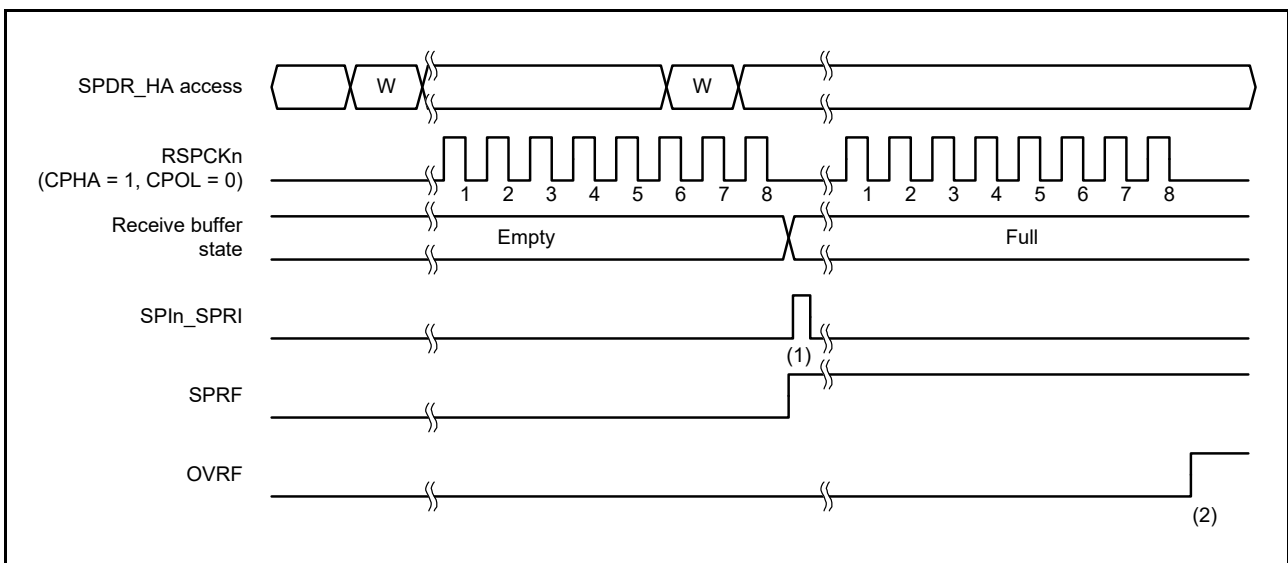
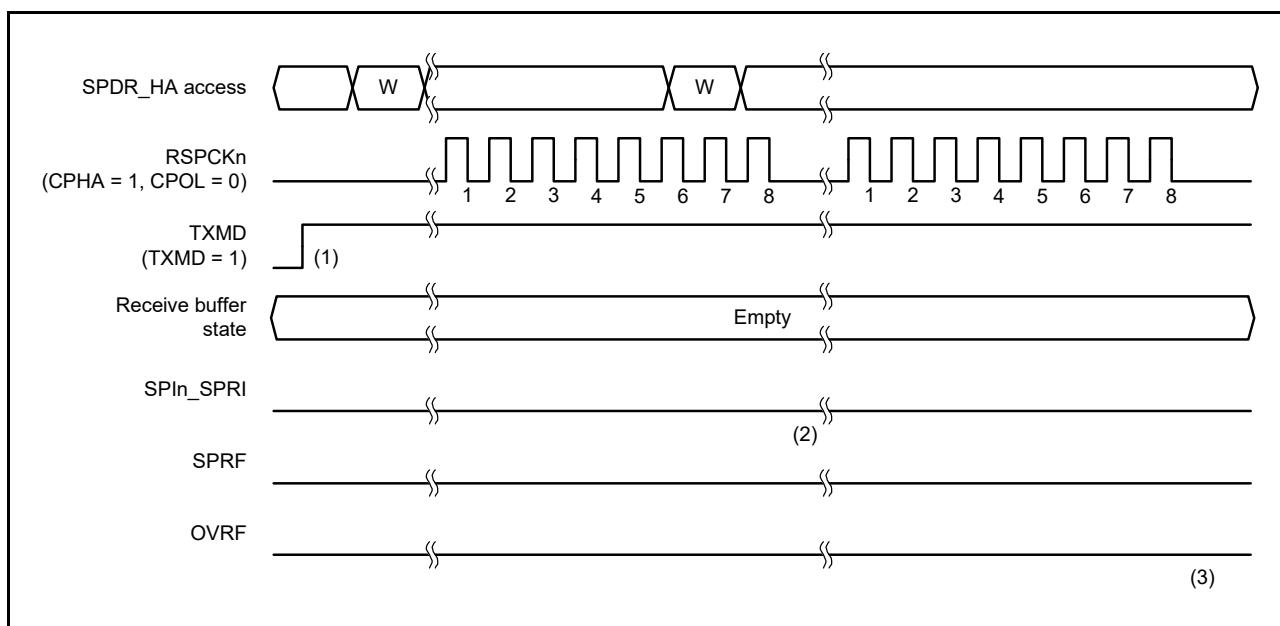

Figure 32.28 Operation example when SPCR.TXMD = 0
Figure 32.29 Operation example when SPCR.TXMD = 1
Full-duplex synchronous serial communications or transmit operations can only be selected by the communications operating mode select bit (SPCR.TXMD). The register accesses shown in Figure 32.28 and Figure 32.29 indicate the condition of access to the SPDR/SPDR_HA register, where W denotes a write cycle.
Figure 32.28 shows an example of operation where the communications operating mode select bit (SPCR.TXMD) is set to 0. In the example, the SPI performs an 8-bit serial transfer in which the SPDCR.SPFC[1:0] bits are 00b, the SPCMDm.CPHA bit is 1, and the SPCMDm.CPOL bit is 0 for SPI0, and in which the SPCMD0.CPHA bit is 1 and the SPCMD0.CPOL bit is 0 for SPI1. The numbers given for RSPCKn in the waveform represent the number of RSPCK cycles, meaning the number of transferred bits.
The operation of the flags at timings shown in (1) and (2) in Figure 32.28 is as follows:
- (1) When a serial transfer ends with the SPDR_HA receive buffer empty, the SPI generates a receive buffer full interrupt request (SPIn_SPRI), the SPI sets the SPSR.SPRF flag to 1, and the received data is copied from the shift register to the receive buffer.
- (2) When a serial transfer ends with the SPDR_HA receive buffer holding data that was received in the previous serial transfer, the SPI sets the SPSR.OVRF flag to 1 and discards the received data in the shift register.
Figure 32.29 shows an operation example where the communications operating mode select bit (SPCR.TXMD) is set to 1. In the example in Figure 32.29, the SPI performs an 8-bit serial transfer in which the SPDCR.SPFC[1:0] bits are 00b, the SPCMDm.CPHA bit is 1, and the SPCMDm.CPOL bit is 0 for SPI0, and in which the SPCMD0.CPHA bit is 1 and the SPCMD0.CPOL bit is 0 for SPI1. The numbers given for RSPCKn in the waveform represent the number of RSPCK cycles, meaning the number of transferred bits.
The operation of the flags at timings shown in (1) to (3) in Figure 32.29 is as follows:
- (1) Make sure there is no data left in the receive buffer (SPSR.SPRF flag = 0) and the SPSR.OVRF flag is 0 before entering the transmit-only operation mode (SPCR.TXMD = 1).
- (2) When a serial transfer ends with the receive buffer of SPDR_HA empty, if the transmit-only mode is selected (SPCR.TXMD = 1), the SPSR.SPRF flag remains 0, and the SPI does not copy the data in the shift register to the receive buffer.
- (3) Because the receive buffer of SPDR_HA does not hold data that was received in the previous serial transfer, even when a serial transfer ends, the SPSR.OVRF flag remains 0, and the data in the shift register is not copied to the receive buffer.